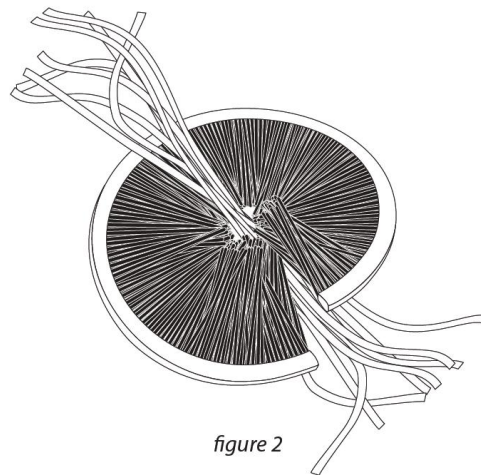

figure 2
3. Separate the brush and holder and wrap around the cables. (See figure 2.)